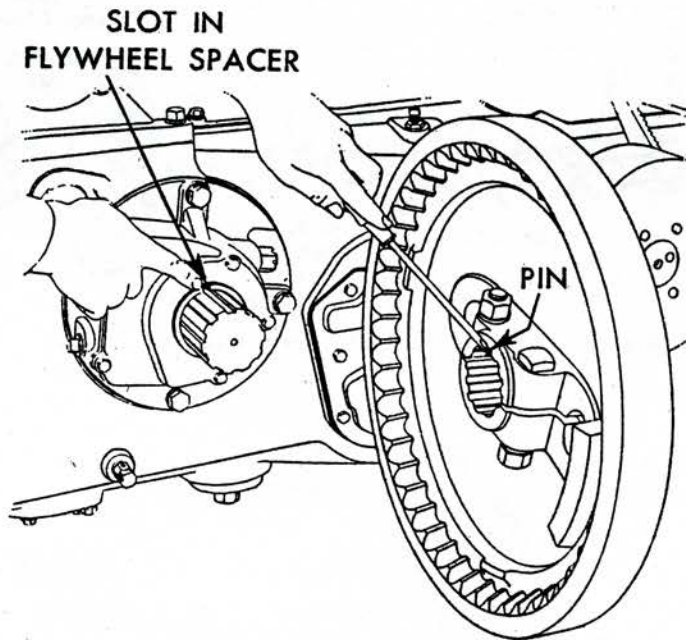

Fig. 14 Install flywheel with pin fitting in slot. Typical of all A, B, D, G, H series
When installing the flywheel, make sure that the small pin on the inside of the flywheel hub, Fig. 14, fits in the slot of the flywheel spacer in the left-hand main bearing.
When putting on the flywheel, see that the small pin on the inside of the flywheel hub fits in the slot of the spacer in the left main bearing (see Fig. 14).
**SERIES A, B, D, G, H**—The main bearing oil seal is located in the spacer between the left-hand main bearing and flywheel. To remove the seal, take off the flywheel and main bearing cover. Mark the spacer and crankshaft so that the spacer may be reinstalled in the original position with relation to the crankshaft. Remove the spacer, pick out the old seal and install the new one. Reassemble parts removed, being sure the seal is not damaged as it is passed over the splines. See Figs. 14, 15 and 16 regarding flywheel installation.